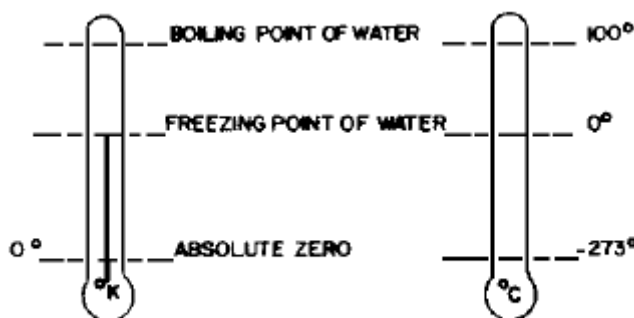

Figure 9. Kelvin-Celsius relationship.
The Rankine scale, which is used in the United States by engineers, starts at absolute zero and reads up in Fahrenheit increments. Referring to figure 9, you will see the number 492 on the Rankine (R) scale. If you subtract 32 from 492 you will have the number 460 which we previously found. Since the Rankine scale starts at absolute zero all temperature indications are positive values